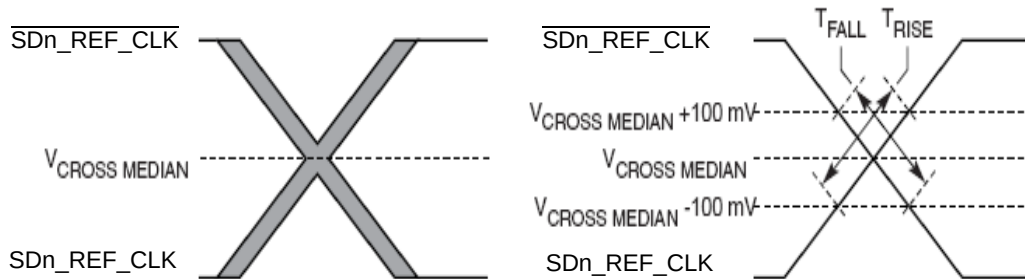

Figure 47. Single-Ended Measurement Points for Rise and Fall Time Matching
4. Matching applies to rising edge rate for SDn_REF_CLK and falling edge rate for $\overline{\text{SDn_REF_CLK}}$. It is measured using a 200 mV window centered on the median cross point where SDn_REF_CLK rising meets $\overline{\text{SDn_REF_CLK}}$ falling. The median cross point is used to calculate the voltage thresholds the oscilloscope is to use for the edge rate calculations. The Rise Edge Rate of SDn_REF_CLK should be compared to the Fall Edge Rate of $\overline{\text{SDn_REF_CLK}}$, the maximum allowed difference should not exceed 20% of the slowest edge rate. See Figure 47.